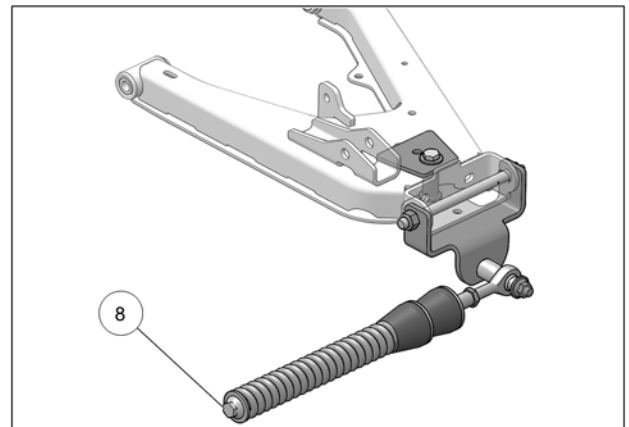

Fig. 12
- Verify that spring assembly bolt (8) is tightened to the recommended torque specification: 75 N•m [55 lb•ft]. Refer to Fig. 12